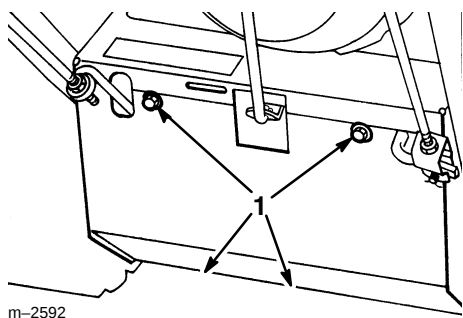

Figure 27
- Remove the four screws that secure the bottom cover to the frame and remove the cover (Fig. 27).
- Remove the four screws that secure the bottom cover and remove the cover (Fig. 27).